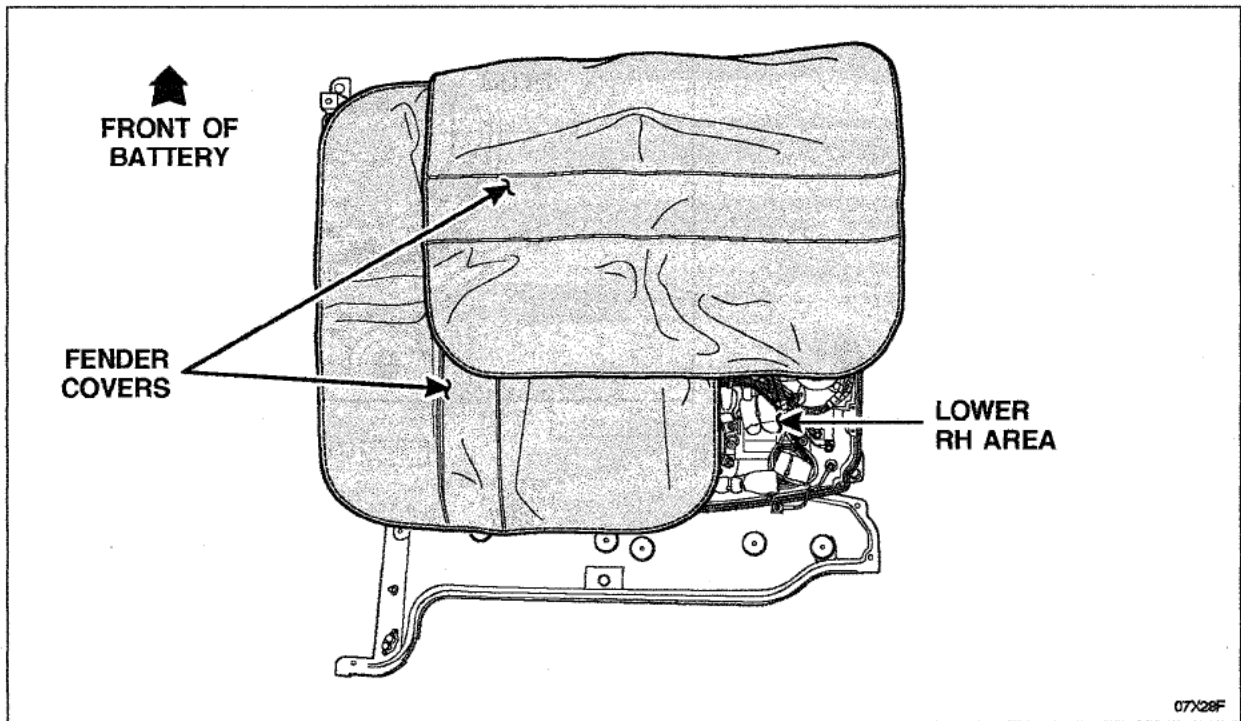

FIGURE 6
9. Cover the battery box using fender covers to make sure no debris falls into the battery box, leaving the lower RH area exposed. See Figure 6.